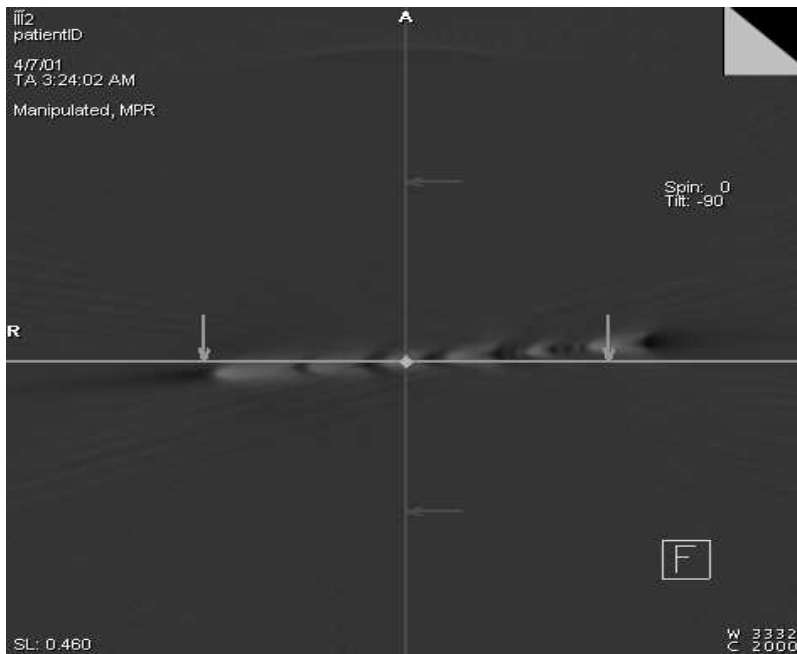

Fig. 15 Slice plane setting in the lower left window.
- Next, select a slice plane in the center of the lead strip test pattern (see Fig. 15).